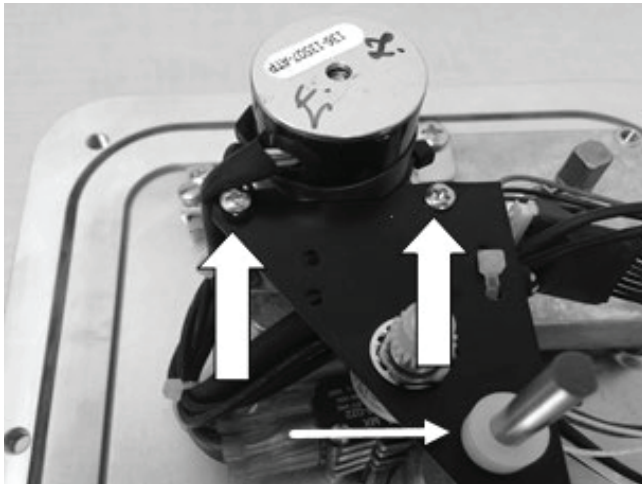

Figure 7.
- 4.9 Remove the cam shaft gear spacers and the 2 Philips screws that hold the potentiometer bracket in place and retain them for future use. Then remove the potentiometer bracket from the cam shaft, see Figure 7.